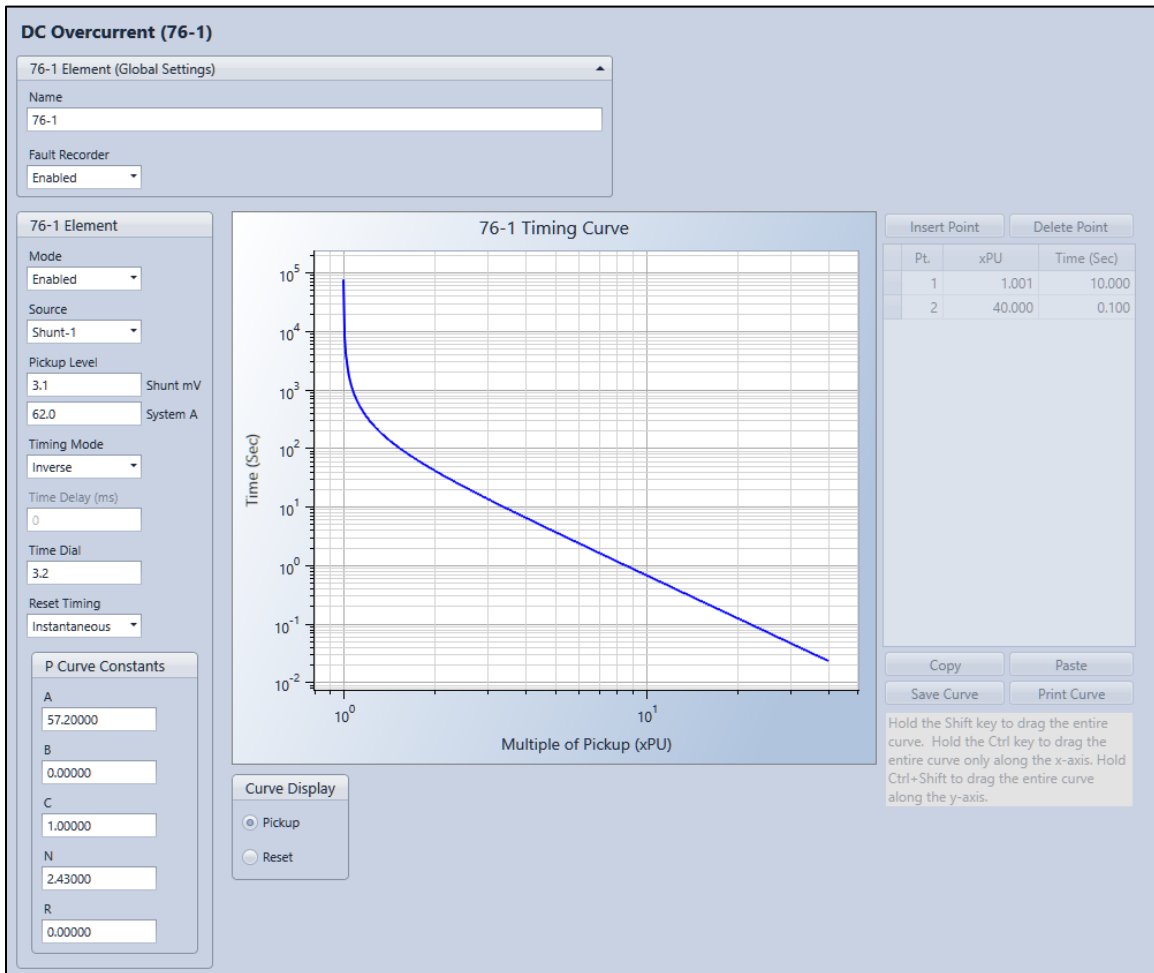

Figure 34-2. DC Overcurrent Settings Screen
Inverse overcurrent element operational settings are configured on the DC Overcurrent (76) settings screen (Figure 34-2) in BESTCOMSPPlus.